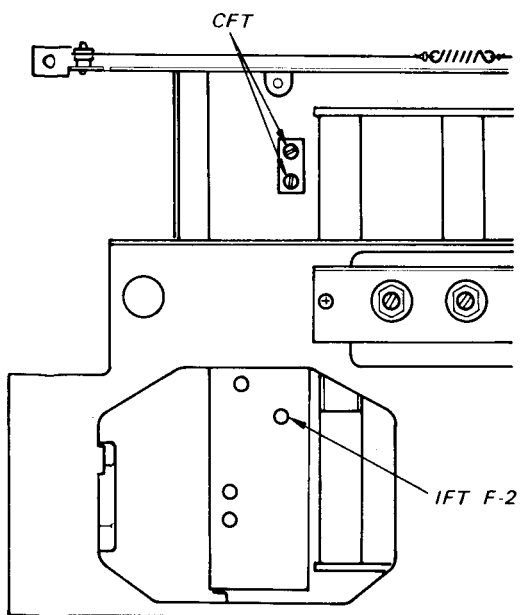

Fig. 3-4. Adjustment locations
*2. IFT F-2 is unable to adjust from rear part of the set. Remove the front panel and adjust IFT F-2 from front part. (See Fig. 3-4).
Modulate the rf signal with 400 Hz AM modulation. Vary the rf signal around 455 kHz to find i-f frequency of the set. The dial of the rf signal generator shows i-f frequency of the set when the output power of the speaker becomes maximum. If the peak of the output power is not found around 455 kHz, adjust the ceramic filter cores after removing front panel and dial drum as shown in Fig. 3-4.